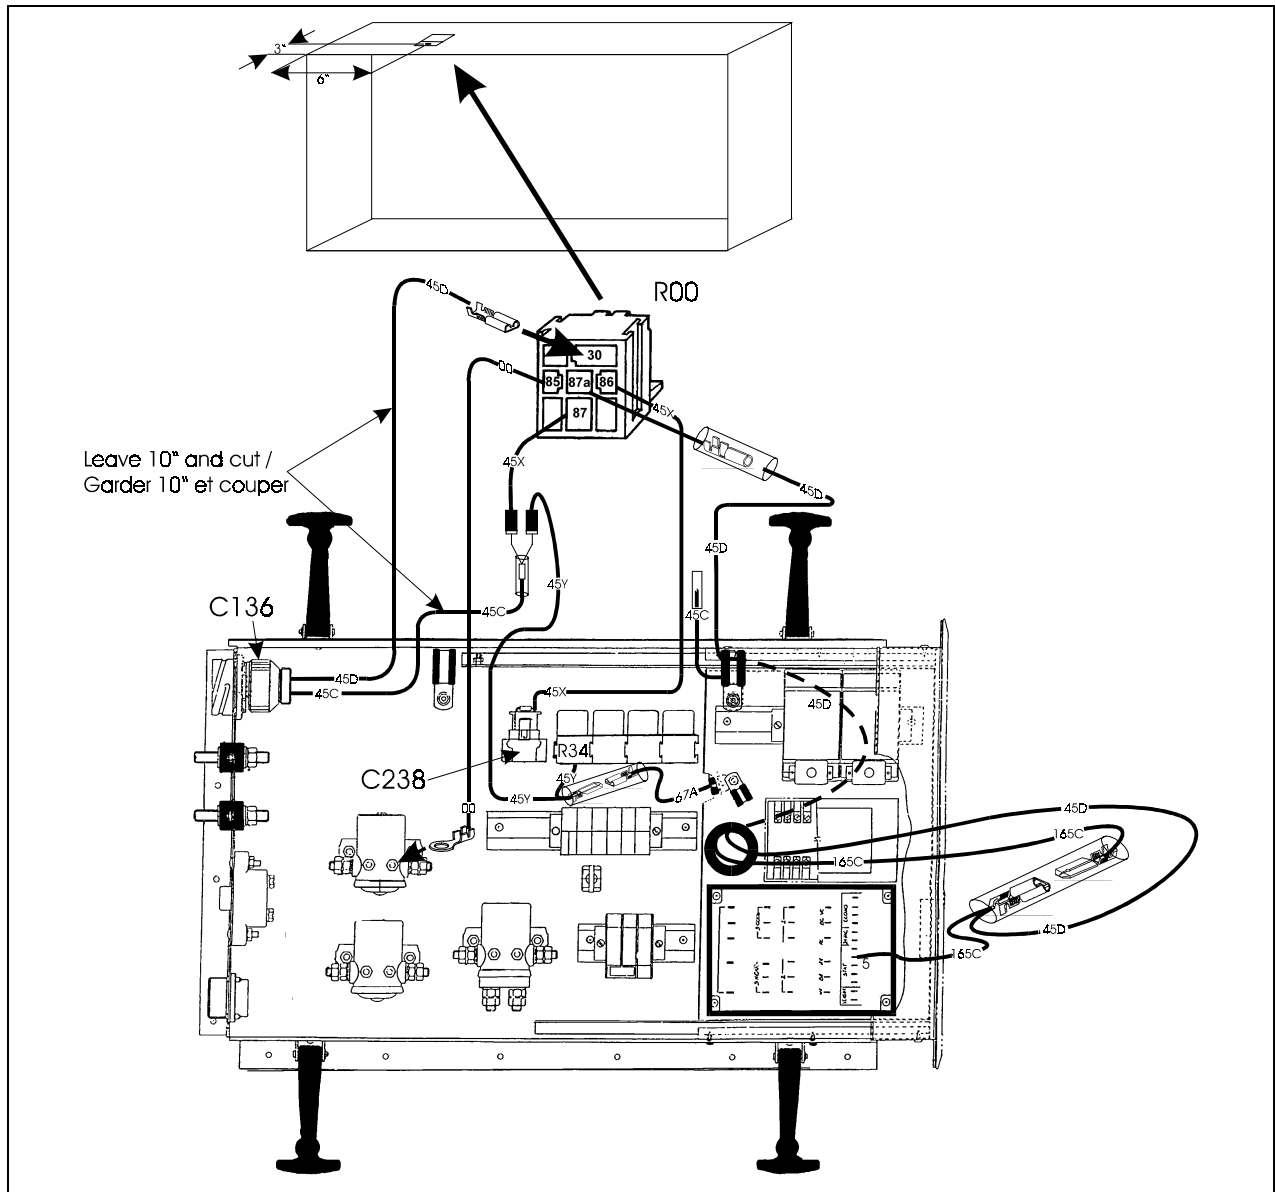

FIGURE 2 : A/C JUNCTION BOX
9. Plug relay #561707 into relay base and fix inside the A/C junction box. See figure 2 for location.